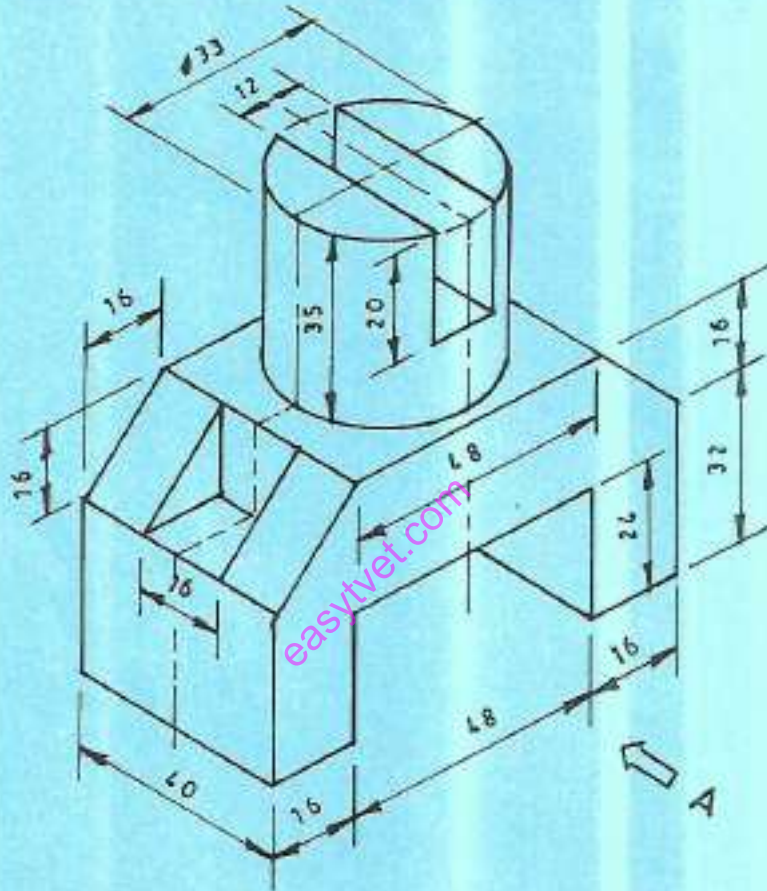

Fig. 3
8. Figure 3 shows a pictorial view of an object. Draw the following using third angle orthographic projection: